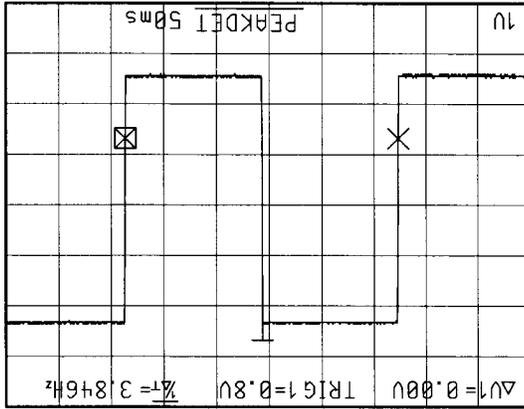

Figure 3-25: Low-Frequency Signal in the STORE Mode
Step 7: Set the oscilloscope to **STORE** mode (Figure 3-25). Note that the annoying flicker of the **NON-STORE** display is removed.